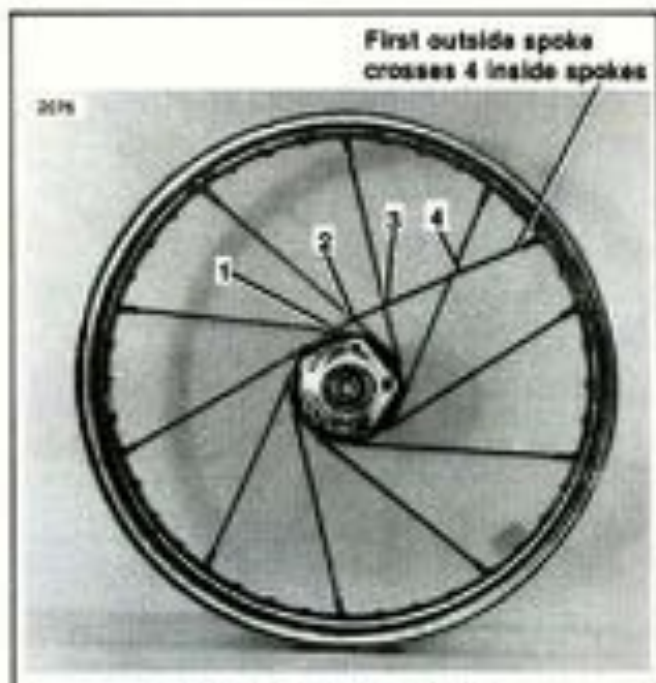

Figure 2-26. Cross-4 Pattern
- See Figure 2-26. Swing the outer spoke in the opposite direction crossing over four inner spokes, and secure the spoke in the nearest hole angled